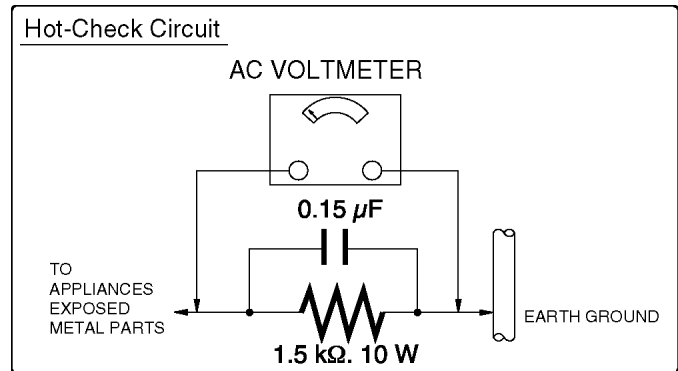

Figure. 1
(See Figure 1.)
- Connect a 1.5 k $\Omega$ , 10 W resistor, in parallel with a 0.15  $\mu$ F capacitor, between each exposed metallic part on the set and a good earth ground, as shown in Figure 1.